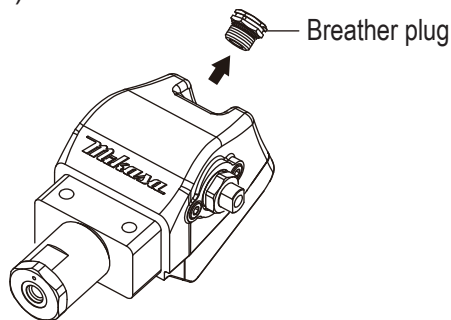

Fig. 1
(1) Disassembly
- a. Remove the breather plug, then remove the hydraulic oil from the inside of hand pump. (Fig.1)